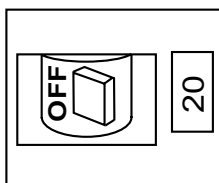

Figure 14. Main Circuit Breaker (OFF)
2. **NEVER** start the engine with the main circuit breaker in the **ON** position. Always place circuit breaker (Figure 14) in the **OFF** position before starting.